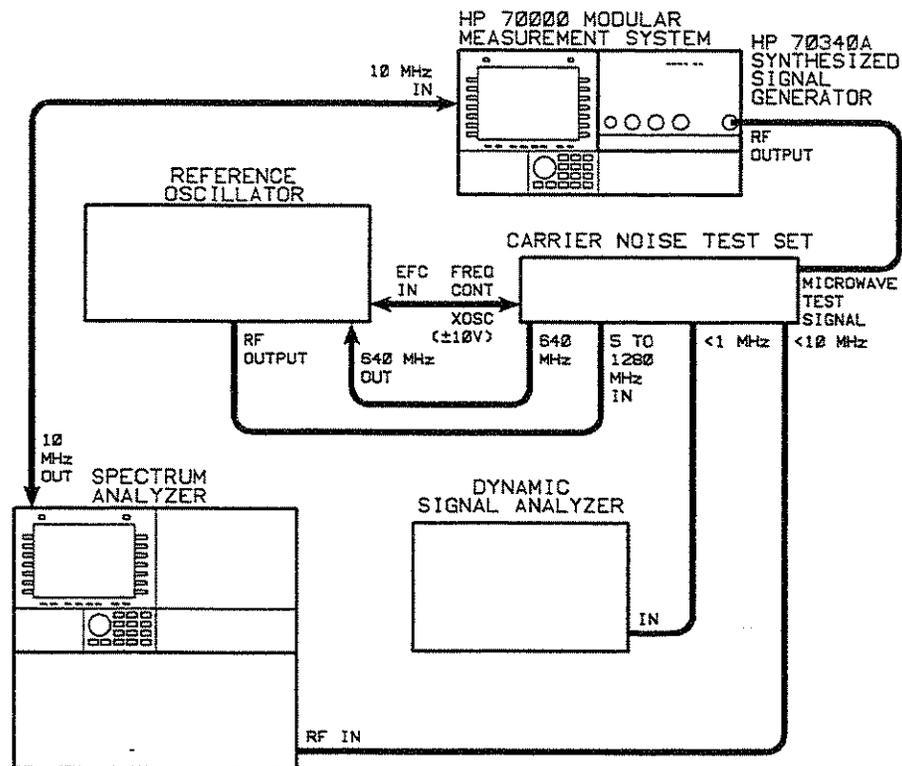

Figure 1-10. Non-Harmonic Spurious Signals 3 kHz to 30 kHz Test Setup
1. Connect the equipment as shown in Figure 1-10.